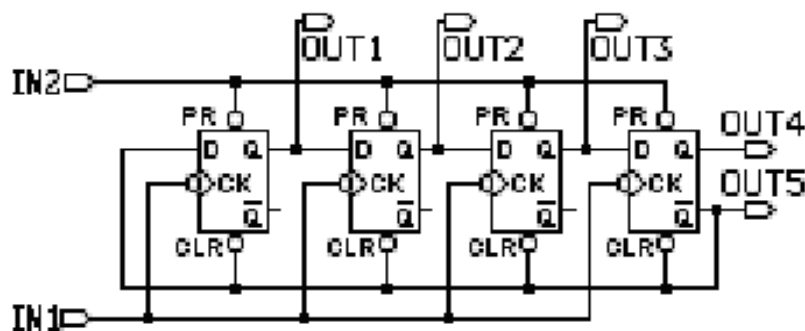

Figure 8-7
1. 4 bits SIPO shift Register circuit as figure8-7.